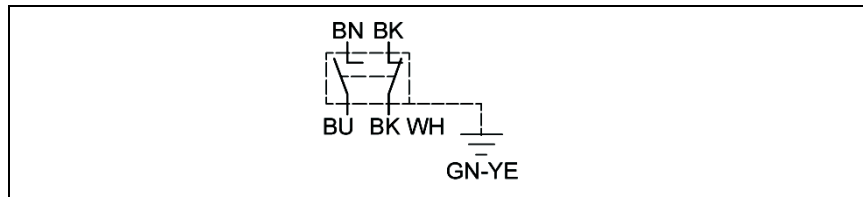

Fig. 13: Connection diagram for the limit switch
1. Remove the protection element (1) from the limit switch.
2. Remove the protection element (2) from the plug connector.
3. Insert the plug connector (3) into the limit switch.
4. Turn the screw (4) 90° clockwise.
5. Connect the cable ends (5) in accordance with diagram (see Fig. 13).